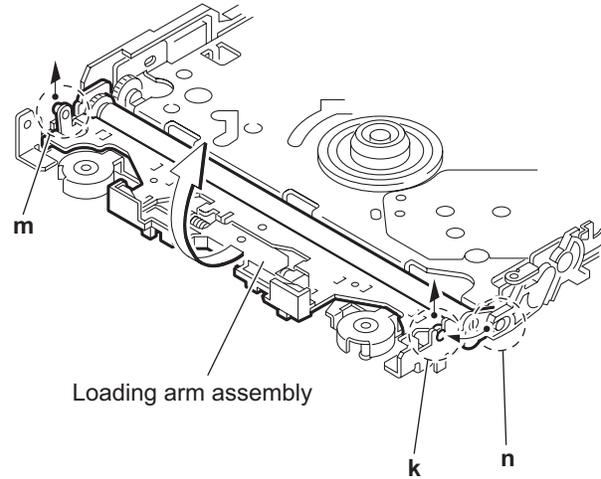

Fig.13
**(See Figs.13 and 14)**
- (1) From the top of the body, move the loading arm assembly from the front side upward, and release the bosses from the right and left joints **k** and **m** of the chassis base assembly.
- (2) Release the boss from notch **n** of the connect arm on the right side of the body, and release the boss from notch **p** of the slide cam assembly on the left side.